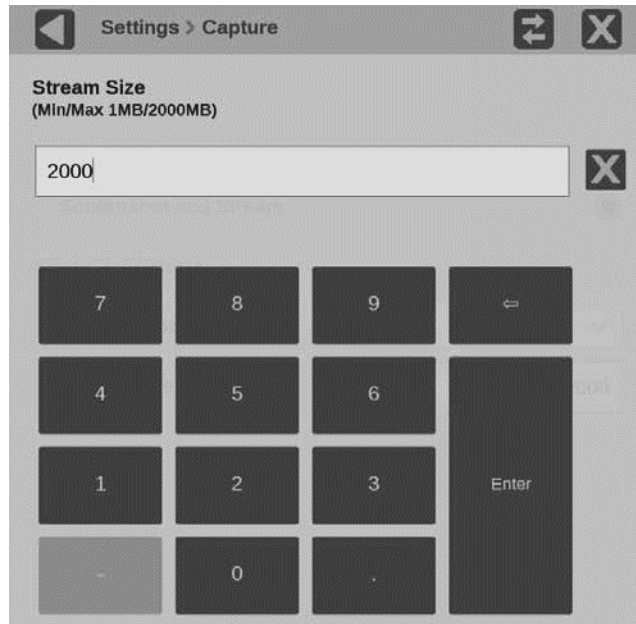

Figure 96: Stream Size settings
6. Select **Stream Size (MB)** to set the size of the capture. (See Figure 96.)